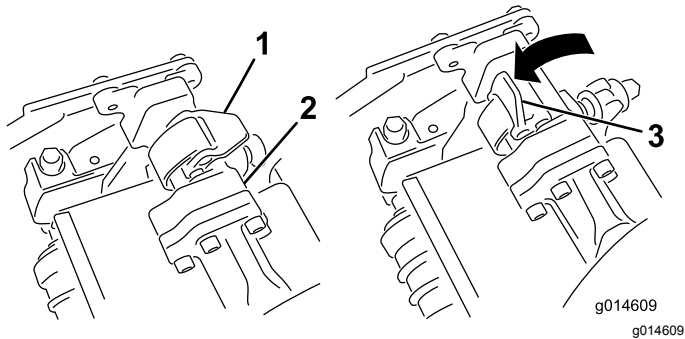
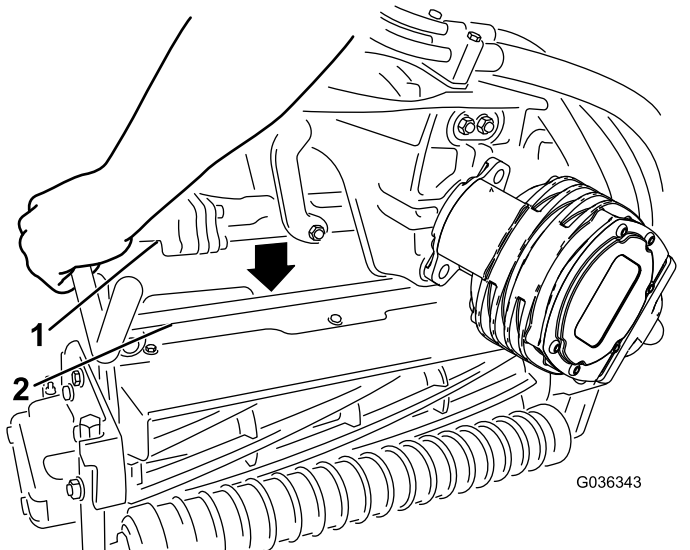

Figure 51
Figure 52
4. With the latches on the suspension-arm bar pointing up (i.e., open) (Figure 51), push the suspension arm down so that the bar fits over the bar across the top of the cutting unit (Figure 52).
5. Close the latches down and around the cutting-unit bar and lock them in place (Figure 51).
5. Open the latches on the suspension-arm bar of the cutting unit you are removing (Figure 51).